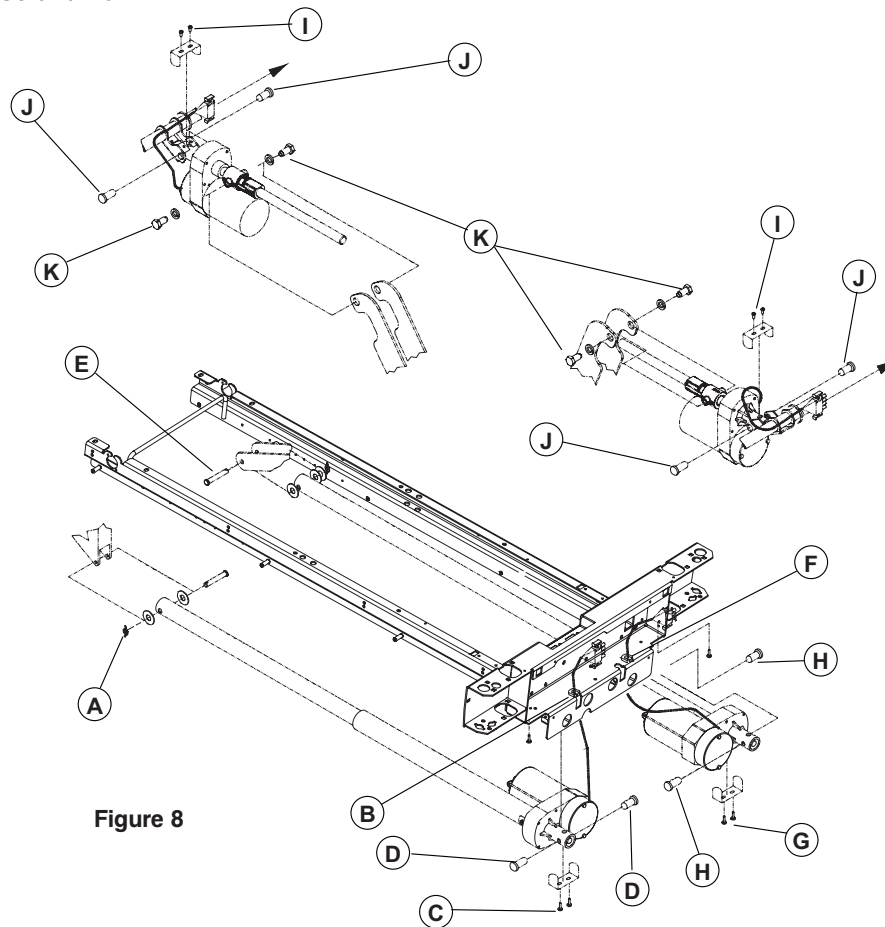

Figure 8
4. Using needle nose pliers, remove the rue ring cotter/washers/clevis pin (E, Figure 8, page 44) linking the thigh section lever arms to the thigh actuator tube.
7. Using a #2 Phillips screwdriver, remove the two screws (D) holding the micro switch activator to the thigh section. Install the micro switch activator on the new thigh section.
Unless otherwise indicated, refer to Figure 8, page 44, for reference for this procedure.